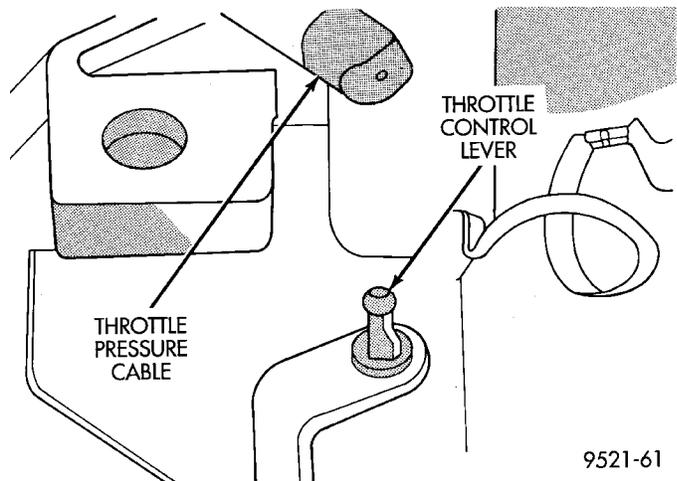

**Fig. 16 Gearshift Mechanism**
(8) Remove the nuts at the base of the gearshift mechanism (Fig. 16). Remove the shifter mechanism.